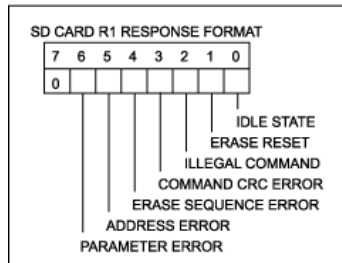

Figure 4. Response format R1 signals the success or failure of the issued command.
At power-up, the SD card defaults to the proprietary SD bus protocol. To **switch** the card to SPI mode, the host issues command 0 (GO\_IDLE\_STATE). The SD card detects SPI mode selection by observing that the card select (CS) pin is held low during the GO\_IDLE\_STATE command. The card responds with response format R1 (**Figure 4**). The idle state bit is set high to signify that the card has entered idle state. To maintain compatibility with MMC cards, the SPI clock rate must not exceed 400kHz at this stage.